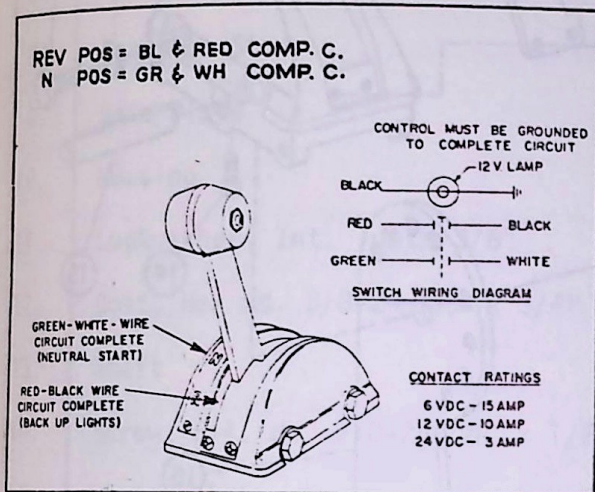

FIGURE 1-5
1.5.1 Adjust the switch in its bracket until the neutral safety circuit and the backup light circuits are complete in the appropriate positions. See Figure 1-5.